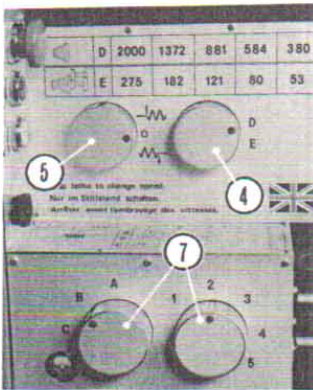

Fig. 12 Headstock Controls and pitch change controls
The Headstock reduction gears can then be engaged by means of the control knob ④, Fig. 12. The engagement will be assisted if the main spindle is turned slightly by hand.
This is accomplished by manipulation of the control knob ⑤ Fig. 12 (assist engagement by turning slightly the main spindle by hand).
This is accomplished via the two control knobs ⑦ Fig. 12 on the front of the gearbox. (Assist engagement by slightly turning the main spindle.)